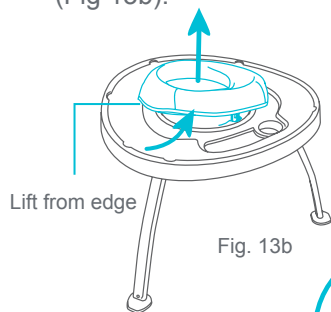

Fig. 13b
- From the top of the Table Top, use the edge of the seat to lift it off the tabletop (Fig. 13b).